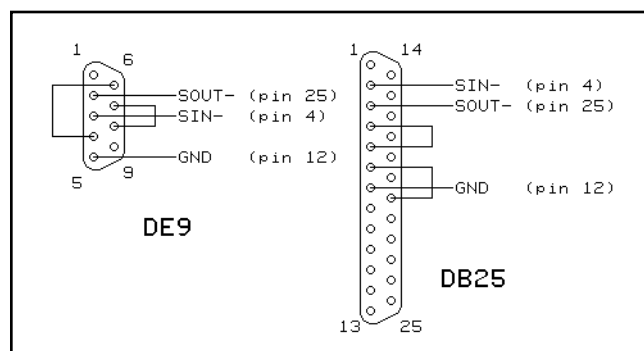

Figure 3.1: Answer MAN Sr. connections to an RS-232 interface.
2. Connect a serial terminal or a PC running communications software to pins 3, 26, and 12 of the Answer MAN (Sin–, Sout–, and GND) as shown in Figure 3.1.
Figure 3.1 shows how to connect the Answer MAN Sr. to an RS-232C device.